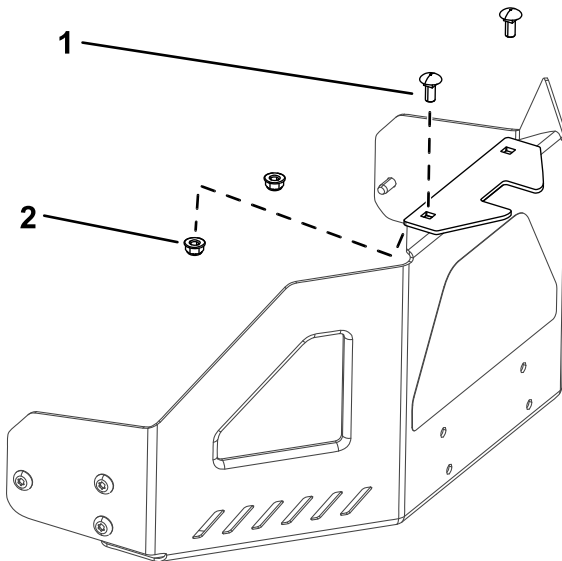

**Figure 8**
2. Install the pivot frame to the machine frame as shown in Figure 8. Secure the pivot frame to the machine frame using 2 bolts (5/16 x 1 inch) and 2 locknuts (5/16 inch).